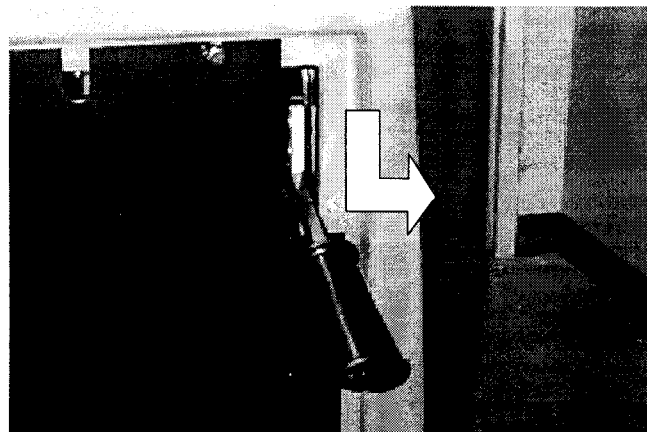

FIG. 8.
1. Lower brush lift lever and engage lock block. (Figure 8)